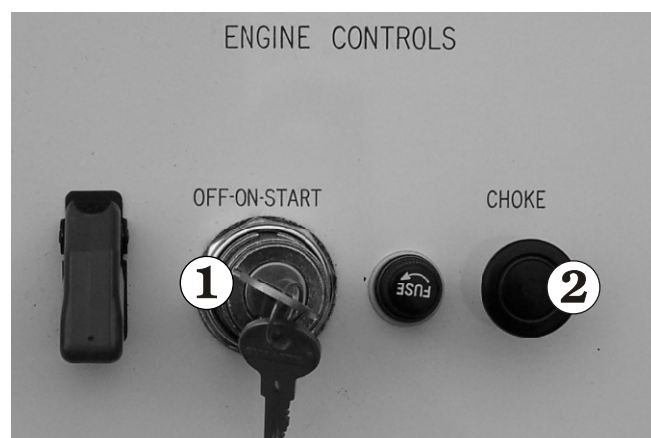

Figure 7.9 - Engine Controls
5. **Master Key Switch:** This 3 position key switch ① (see Figure 7.9) works like an automobile ignition switch (see Chapter 9, Operation for details on engine starting).
6. **Choke Control:** Press this button ② to operate (see Figure 7.9) (see Chapter 9, Operation for details on engine starting).